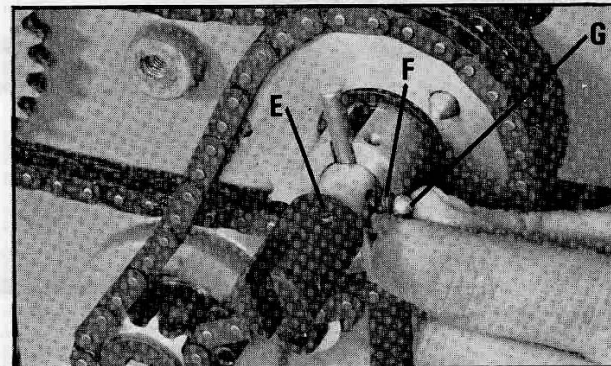

Fig. 20
4. Assemble the shifter bracket (E) Fig. 20, spring (F) and ball (G) as shown. NOTE: The spring and ball can be depressed using a small screwdriver blade.